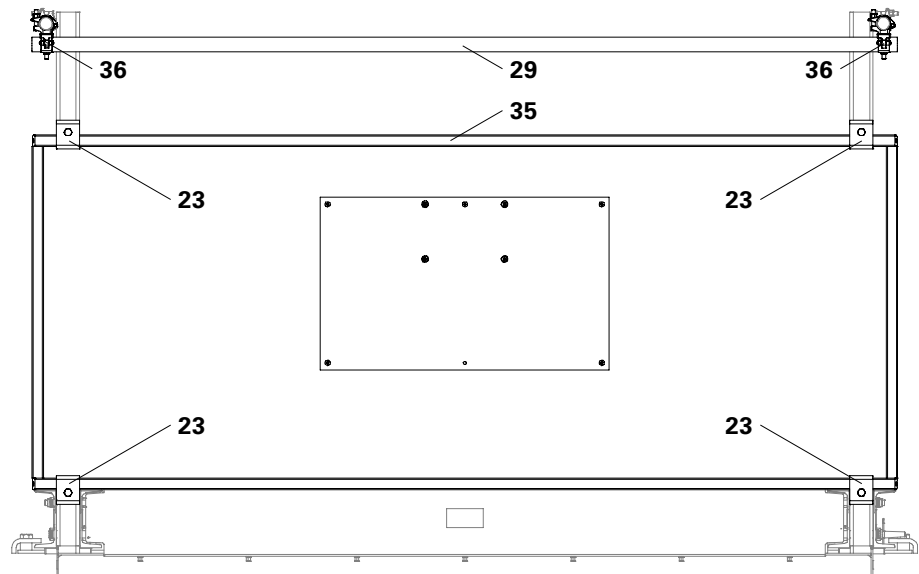

Fig. B4.12
1. Position the Side Protection RCS-MP Front (35) and align symmetrically.
2. Fix the Side Protection RCS-MP Front (35) to the Guardrail Posts RCS-MP (22) at all four places with each 1x Mesh Panel Clip LPS, Single (23), Bolt ISO 4014 M16 x 180-8.8 (25), Washer ISO 7094 100 HV, A16 (26) and Nut ISO 7042 M16-8 (27). (Fig. B4.12 + B4.12a)